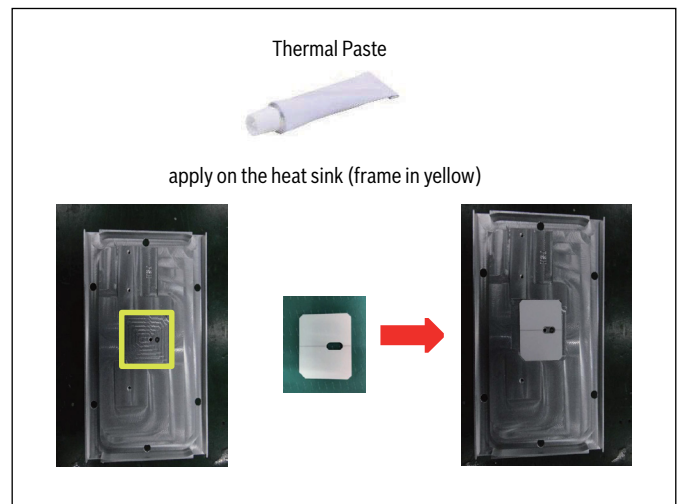

Figure 2
- Apply a thin and even layer of thermal paste on the heat sink designated location (refer to Figure 2: item framed in yellow).
- Put the thermal gasket on the heat sink designated location. The side with breakable groove faces out (refer to Figure 2).